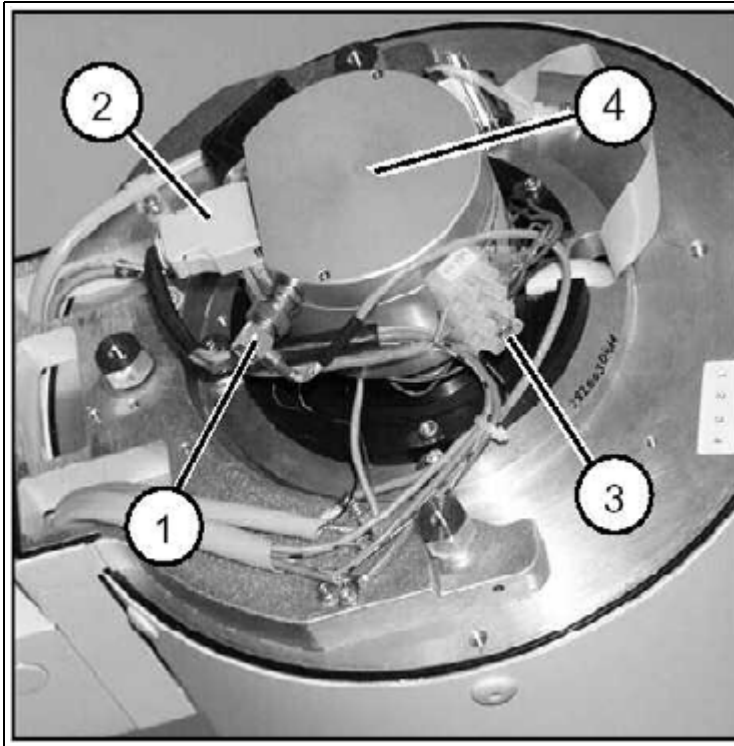

Fig. 12: Replacing the camera and the I. I. optics_1
1. Remove the I.I. cover (already removed in \(Fig. 12 / p. 45\)).
2. Unplug the connectors (1/Fig. 12 / p. 45), (2/Fig. 12 / p. 45) and disconnect the fan wires (3/Fig. 12 / p. 45).
5. Turn the entire camera (4/Fig. 12 / p. 45) counterclockwise until it is no longer attached. For subsequent reinstallation, count the number of turns when removing the camera. The connector (2/Fig. 12 / p. 45) should be in the position shown in \(Fig. 12 / p. 45\).
3. Unplug the connectors (1/Fig. 12 / p. 45), (2/Fig. 12 / p. 45) and disconnect the fan wires (3/Fig. 12 / p. 45).
5. Reattach the connectors (1/Fig. 12 / p. 45), (2/Fig. 12 / p. 45) and the fan wires (3/Fig. 12 / p. 45).